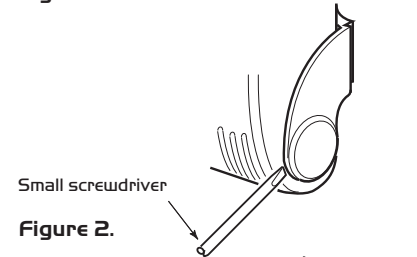

Figure 2.
- Carefully separate the sensor from the backplate using a small screwdriver (see Fig 2) **Note: the sensor will remain connected by its internal cable.**